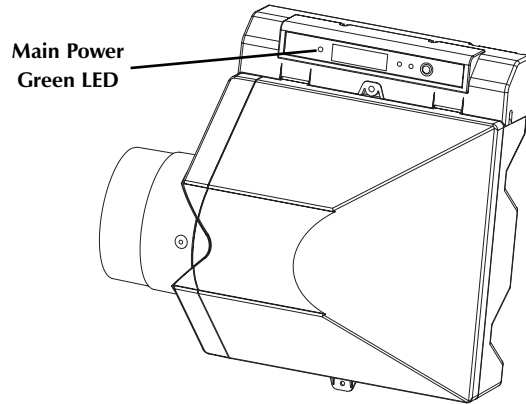

Figure 22
- Plug in the 24 Volt transformer into a constant 120 Volt power source (an outlet which cannot be shut off via a wall switch). Turn on the humidifier by depressing the main red ON/OFF button – When the unit is powered the main green LED on the Digital Humidistat Top Console will turn ON. (fig. 22)